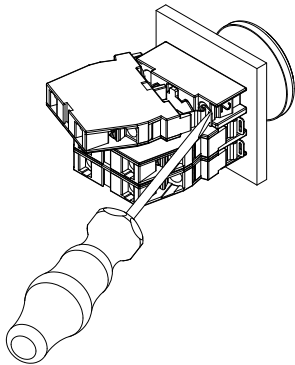

Fig. 8
1. Removal of the EF contact elements is carried out with the aid of a size 2 slotted screwdriver (see fig. 8).